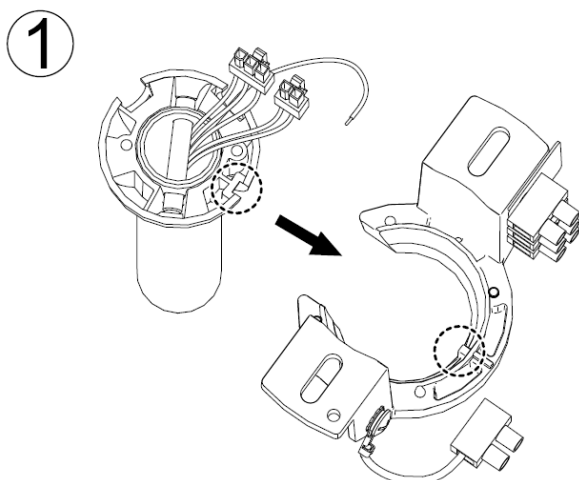

Fig. 6.1
1. Place the hanger onto the mounting bracket. Ensure the key slot of the hanger ball is positioned on the key pin of the mounting bracket to prevent the fan from rotating when in operation. (Fig. 6.1)